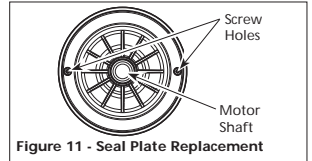

Figure 11 - Seal Plate Replacement
- Carefully slip seal plate over shaft. Do not disturb seal position in seal plate. The seal plate must be orientated during assembly so the two screw holes are on a horizontal line across the motor shaft and the (4) locating pins on the back of the seal plate line up with the tabs on the motor housing (Figure 11). This placement should be done to ensure proper draining and priming.